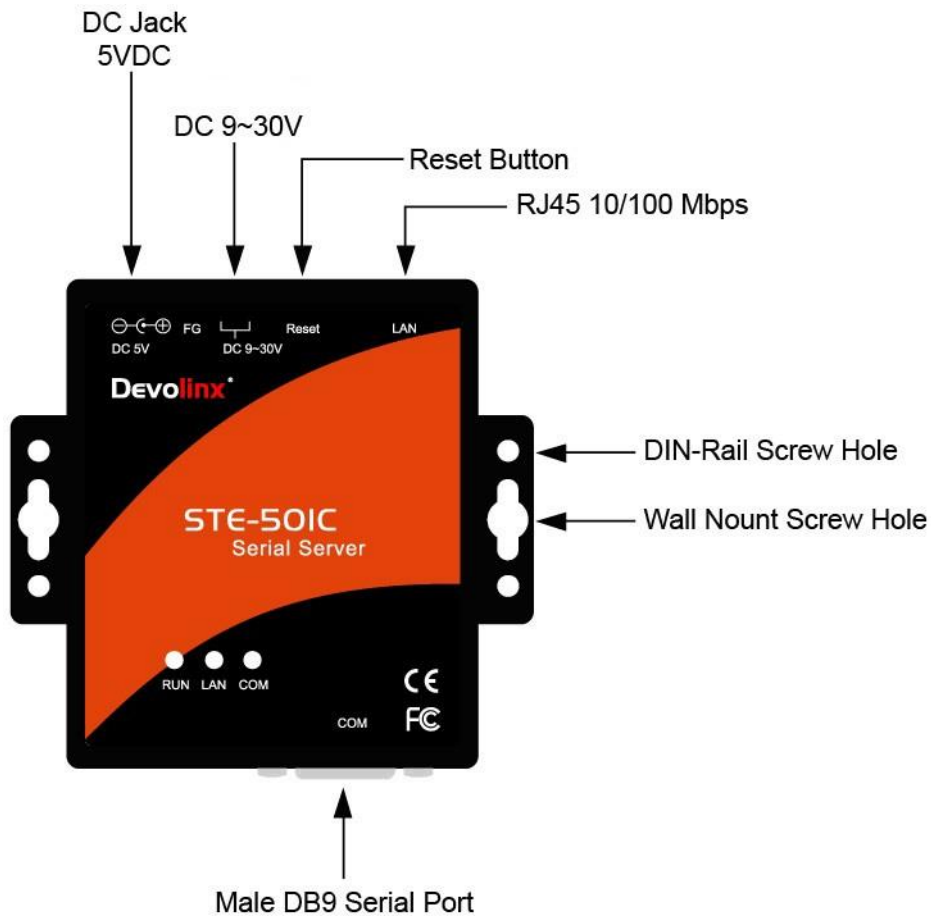

Figure 2.1
2. Press the reset button of STE-501C to reset the settings to the default values. *Figure 2.1* shows the interfaces.